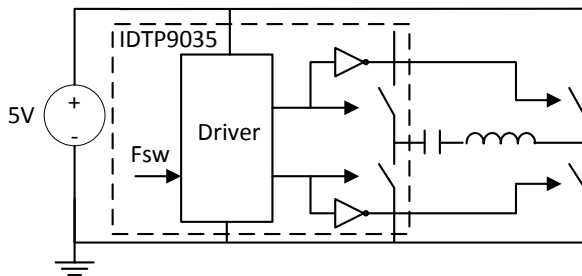
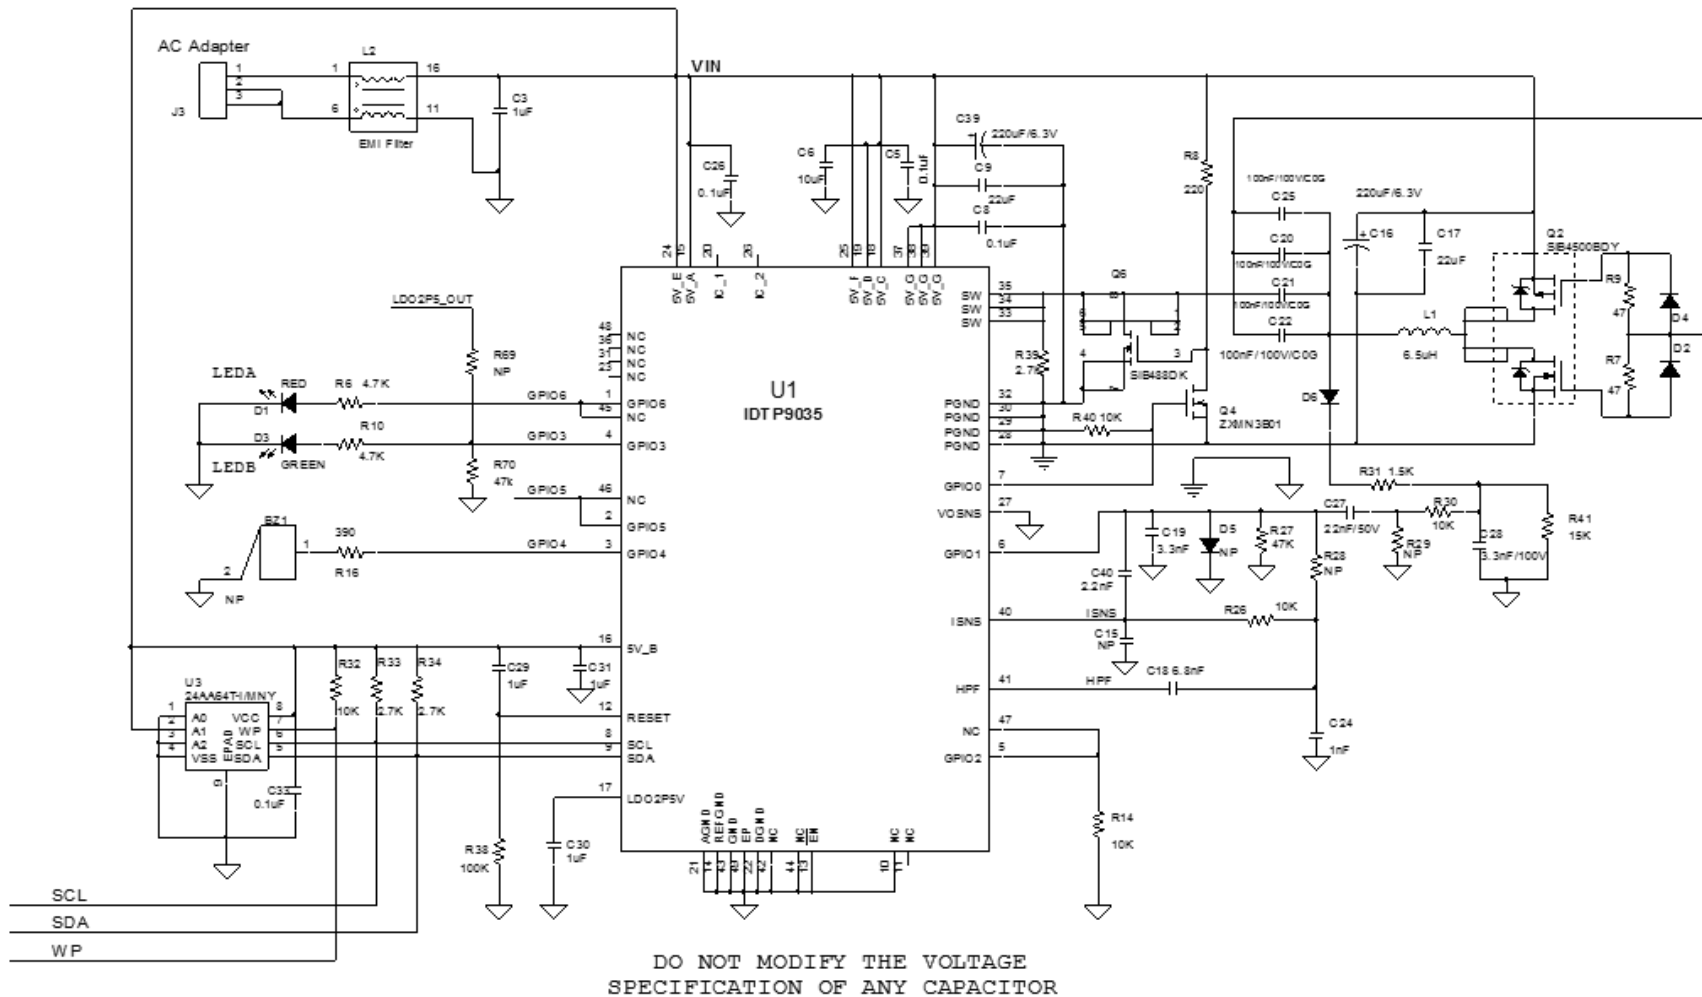

Figure 7. Full-Bridge inverter TX Coil Driver.
Figure 9. IDTP9035 WPC “Qi” Compliance Schematic (See IDTP9035 Evaluation Kit User Manual for complete details)
The Driver Control block contains the logic, shoot-through protection, and gate drivers for the on-chip power FETs and external FETs. The on-chip and external FETs are configured as a full-bridge power inverter, effectively doubling the peak-to-peak voltage applied to the coil. The frequency of the full-bridge output waveform is set by the MCU. (For details, please refer to the simplified application diagram (Figure 1) and the reference design schematic (Figure 9)).
The recommended applications schematic diagram is shown in Figure 9. The IDTP9035 operates with a 5VDC (±0.25V) input. The switching frequency varies from 110kHz to 205kHz. At the 205kHz limit the duty cycle is also changed to adjust the power transfer level. The power transfer is controlled via changes in the switching frequency and duty cycle. The base or TX-side has a series resonance circuit made of a WPC Type-A5 or A11 coil (~6.3μH) and a series resonant capacitor (~400nF) driven by a full-bridge inverter, as shown in Figure 7.
10). A complete design schematic compliant to the WPC “Qi” standard is given in Figure 9. It includes WPC “Qi” LED and buzzer signaling.